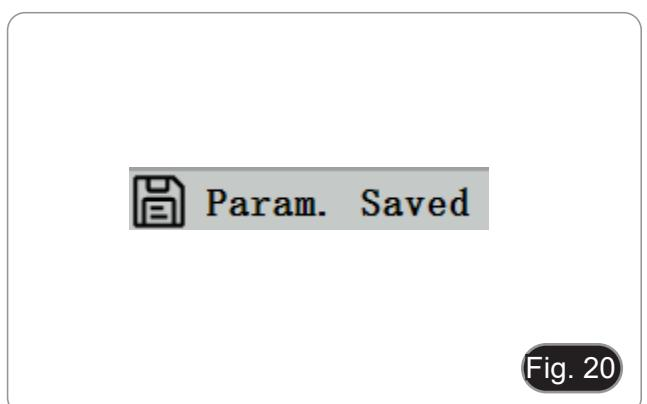

Fig. 20
3. In the upper left corner of the screen, "Param. saved" appears. (Fig. 20)